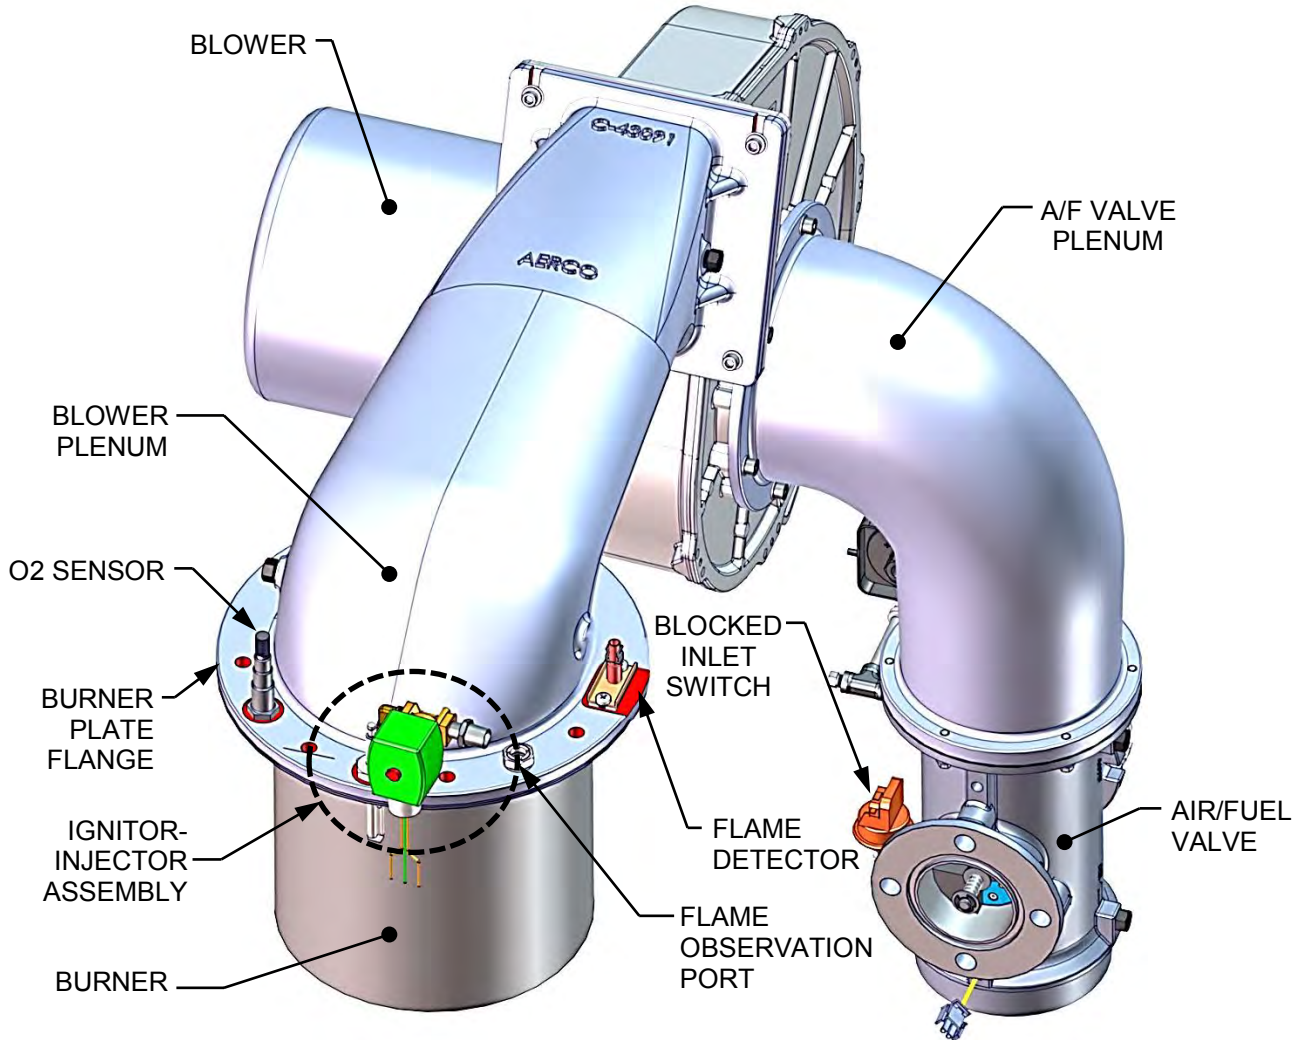

Figure 7-1: Benchmark Burner Assembly (Removed from Boiler Enclosure)
The igniter-injector (kit P/N **58023**) is located on the burner plate at the top of the boiler. In addition to providing the ignition spark required to light the burner, the igniter-injector also contains a gas injector tube which connects to the staged ignition assembly. Figure 7-1 shows the complete burner assembly removed from the boiler and indicates the location of the igniter-injector flame detector and other related components.
2. Remove the top shroud from the unit by grasping the top handle and lifting straight up. This will disengage the shroud from the four (4) pins in the side panels.
3. Disconnect the cable from the igniter-injector (Figure 7-1).
The flame detector (kit P/N **24356-1**) is located on the burner plate at the top of the unit (see Figures 7-1 and 7-2). The flame detector may be hot. Allow the unit to cool sufficiently before removing the flame detector. Inspect or replace the flame detector as follows:
The Lean Oxygen Sensor (P/N **61026**) is located on the burner plate at the top of the unit (see Figures 7-1 and 7-2). The burner plate and this component may be hot, so allow the unit to cool sufficiently before removing or replacing the O₂ sensor.